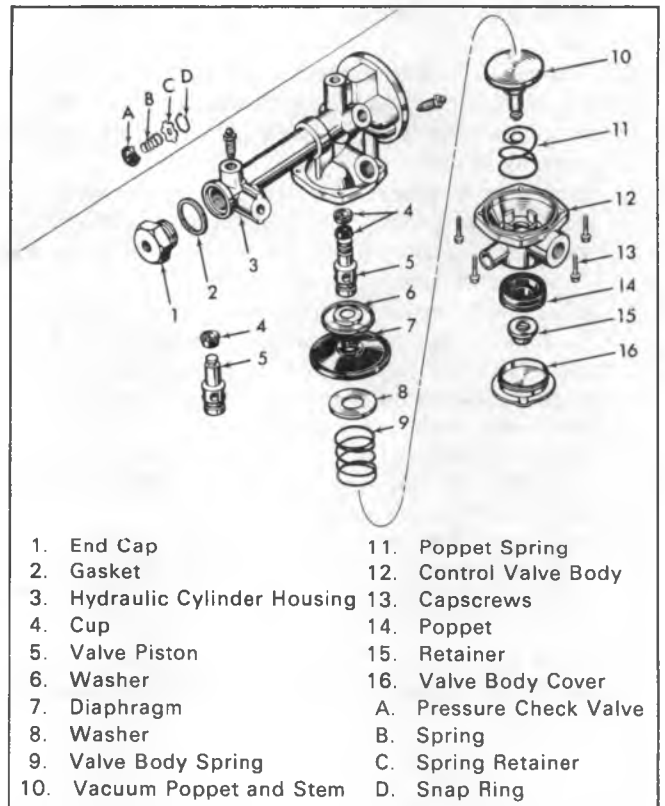
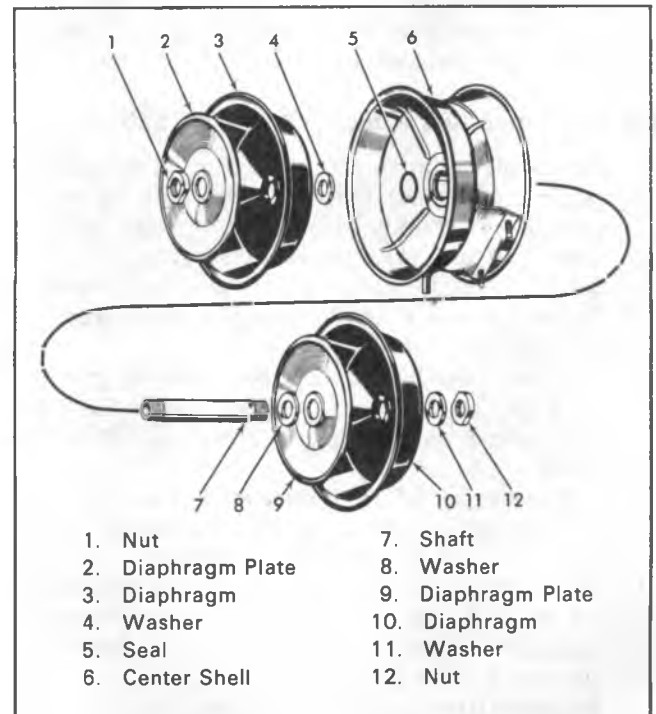

Fig. 5D--Removal and Disassembly of Control Valve
Fig. 8D--Disassembly of Diaphragm and Center Shell Assembly
### Control Valve (Fig. 5D)
#### Control Valve (Fig. 5D)
3. With ice pick or thin-bladed screwdriver, remove cup (9) from piston. Slide seal retainer (2), push rod seal cup (3), push rod bearing (4), stop washer (6) and snap ring (7) off piston end of push rod.
4. Remove "O" ring seal (5) from bearing groove. If necessary to replace push rod seal (13) located in end of push rod, grip seal with pliers and pull it from end of push rod. Discard seal.
**Control Valve and Check Valve (Fig. 5D)**
1. Scribe across flanges of control valve body (12) and hydraulic cylinder housing (3). Remove four capscrews (13) and lift off valve body and spring (9). Remove washer (8), diaphragm (7), washer (6) and cups (4) from valve piston (5).
2. Using screwdriver, carefully pry off plastic valve body cover (16). Pry off plastic retainer (1st stage poppet) (15), lift off atmospheric (2nd stage) poppet (14) and then remove vacuum poppet and stem (10) and poppet spring (11) from valve body (12).
3. Using 1-3/8" wrench, remove end cap (1) and gasket (2). To disassemble residual pressure check valve contained in end cap, use pliers or screwdriver to lift snap ring (D) from groove inside end cap. Remove spring retainer (C), spring (B) and residual pressure check valve (A).
**Diaphragm and Center Shell (Fig. 8D)**
1. Clamp nut (12) on end of shaft in vise and remove nut
### Assembly (Fig. 8D)
#### Control Valve and Check Valve (Fig. 5D)